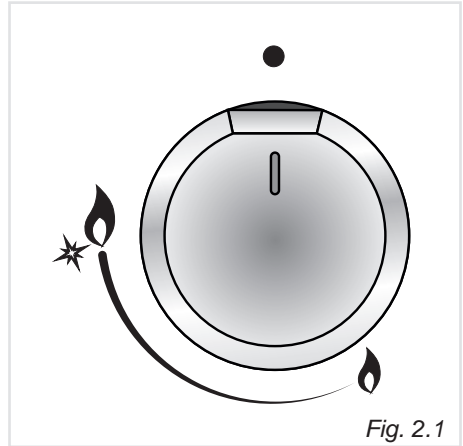

Fig. 2.1
Gas flow to the burners is adjusted by turning the knobs (illustrated in fig. 2.1) which control the safety valves.
1. Press in the corresponding knob and turn counter-clockwise (fig. 2.2) to the full flame position marked by the “” symbol (fig. 2.1); hold the knob in until the flame has been lit.